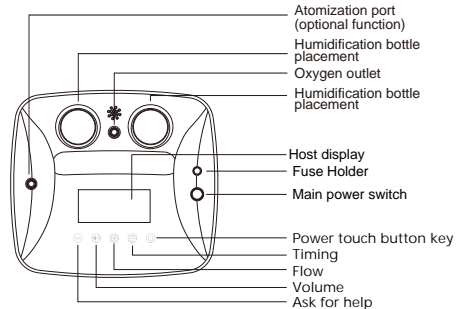
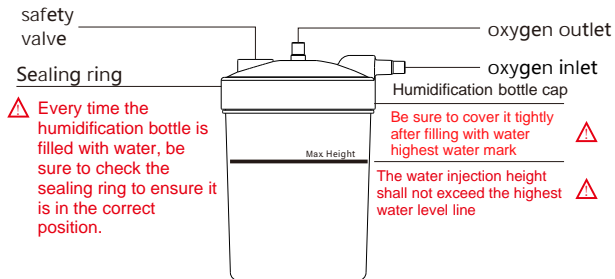

Figure 3. Schematic diagram of the top view of the whole machine
Figure 5. Schematic diagram of humidification bottle
3. Please refer to "Figure 5".
Remarks: Please refer to "Figure 3" and "Figure 5".
Note: Please refer to "Figure 3".
Note: Please refer to "Figure 3" and "Figure 5".